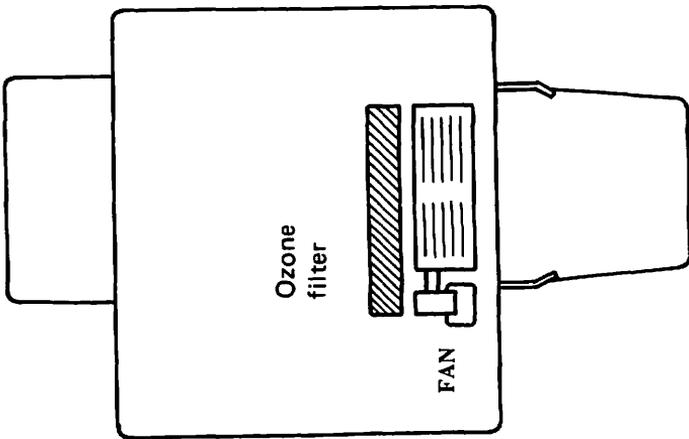

FIGURE 2-14
2. Locate the ozone filter: it is a grey plastic piece located just above the toner cartridge, between the fan and the red plastic preconditioning exposure window (see Figure 2-14). You have to reach under the fan (and look under the fan) to find it.